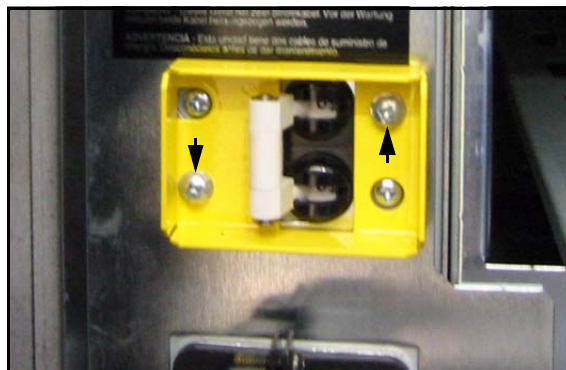

Figure 11 *The circuit breaker cover.*
- Install the yellow circuit breaker cover with two of the pan-head screws (Figure 11).